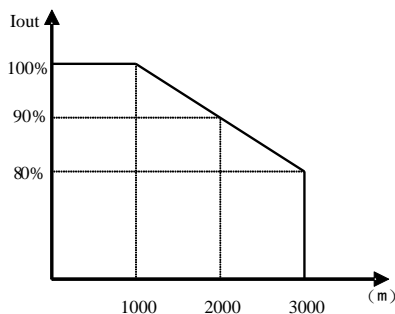

Fig 1-7 Curve Chart of derating rated current with altitude
- Derating must be considered when the drive is installed at high altitude, greater than 1000m. This is because the cooling effect of drive is deteriorated due to the thin air, as shown in Fig. 1-7 that indicates the relationship between the elevation and rated current of the drive.